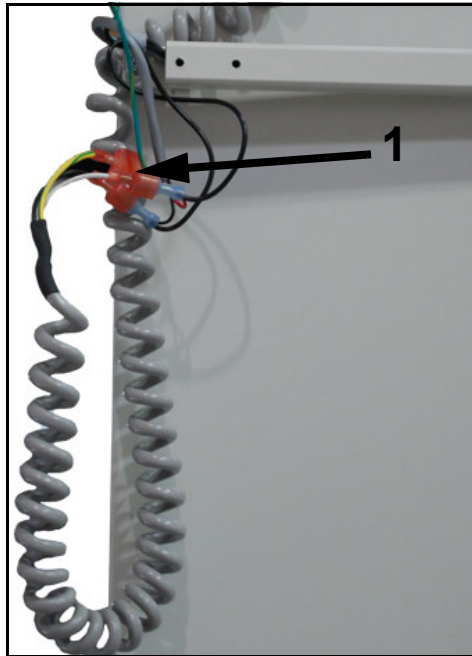

Figure 5-4. Vertical Lock Connectors
- 3 Disconnect the brake lock to the vertical lock connectors (1 in Figure 5-4).